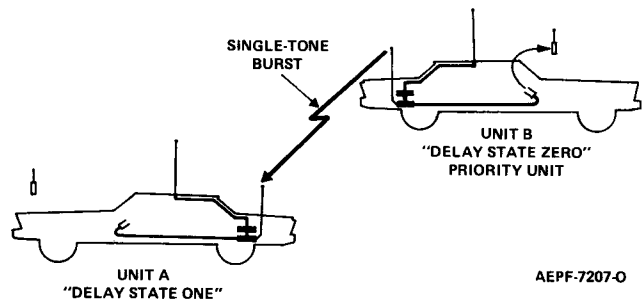

Figure 5.
c. Arrival of Second Vehicular Repeater (Refer to Figure 5)